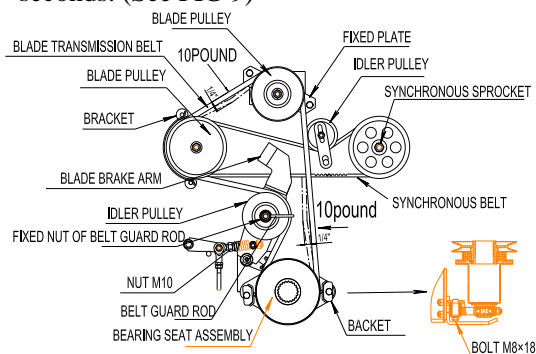

FIG 9
- Remove the belt cover. Adjust the mower deck belt using a belt tension gauge. Engage the blade drive lever, tension the mower belt, and adjust the belt so that the belt moves 1/4" with 10 pounds of pressure. Adjust the tension by tightening or loosening the nut M10. (See FIG 9).
Loosen locknuts of the belt guard on the belt guard fixed seat on the mower deck; loosen bolts of the belt guard bracket beside engine pulley on the engine frame and nuts of the long bolt on the right belt guard bracket. Remove the bolt M8x18, remove the belt around the pulley and install new belt. Reinstall guards and guard brackets, keep the blade drive lever in the engage position, tighten the belt, and give a 3mm clearance between the guards and pulley. Tighten all the nuts and bolts. Check the belt for proper tension. Reinstall the belt cover. (See FIG 9).
- Remove blade transmission belt according to reference method 5.2.2, then loosen nut in the idler pulley, take the synchronous belt from the axis pin, then install the new synchronous belt in reverse order. (See FIG9)
- Remove the belt cover, turn the shift arm, move shift arm away from pulley, remove bolts and nuts, replace with new brake pad, install bolts and nuts, and make blade brake pad aim at the belt pulley groove center, then screw down the nut. Test blade brake system; blade brake pad can make rapid rotary blades stop running in 3 seconds. (See FIG 9)